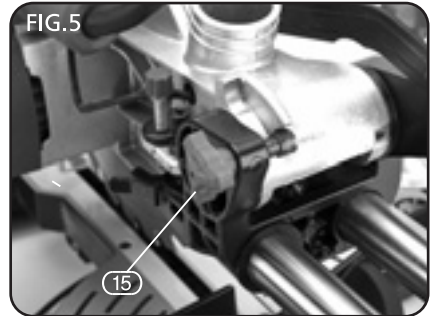

FIG.5
8.5 SAW HEAD LOCKING PIN - FIG. 5